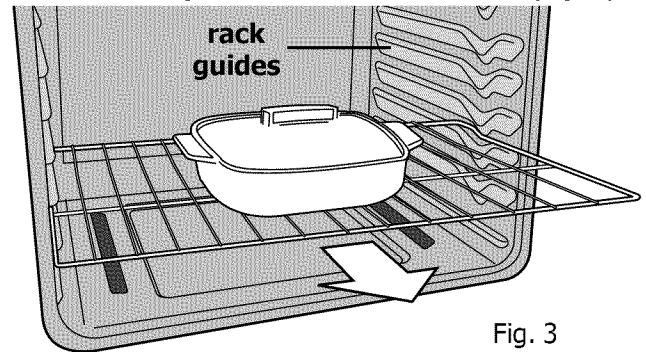

Fig. 3
Most flat and offset oven racks slide on rack guides provided along the oven cavity sides. For better access to food items in the oven, **slowly** pull the oven rack straight out to the oven rack stop position before checking on food items or removing food dishes from the oven (Fig. 3).
4. Assemble one connector arm at a time. With the oven door open and the oven rack in place, install one end of the connector arm to the hole in the **door connector bracket** (Fig. 1) and the other end in the hole in the **rack connector bracket** (Fig. 2 and as in Fig. 3). The oven rack may need to be adjusted in or out in the rack position to match the length of the connector arm.